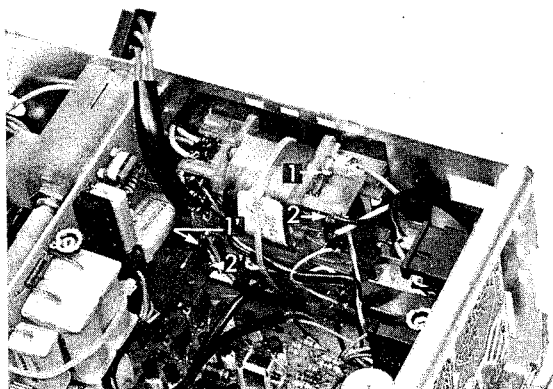

Fig. 2.8. Fuse location
- fuse I (Fig. 2.8.): unsolder the fuse terminals 1 and 2.
- fuse II (Fig. 2.8.): remove the mains transformer (see Section 2.3.9.) and unsolder the fuse terminals 1' and 2'.